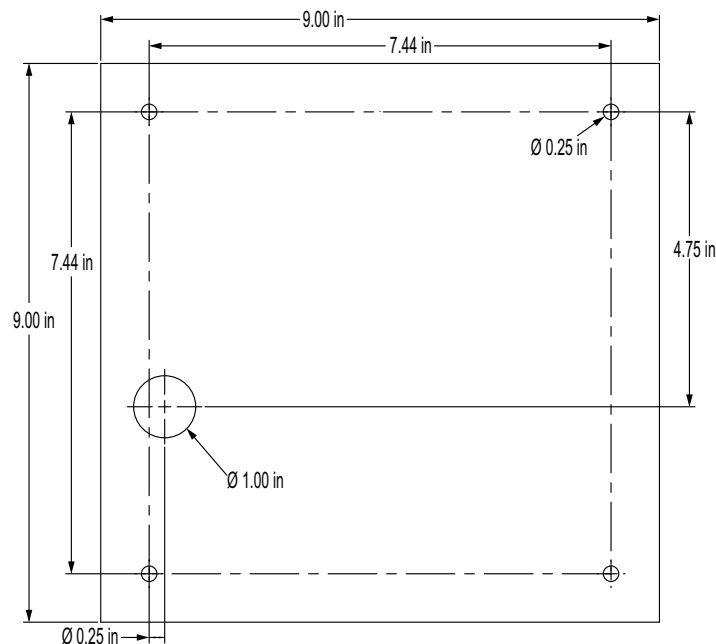

Figure 2-15. 7 Inch Panel Mount (with Keypad) Dimensions
3. Drill holes at the marked locations. See Figure 2-15 below for exact measurements.